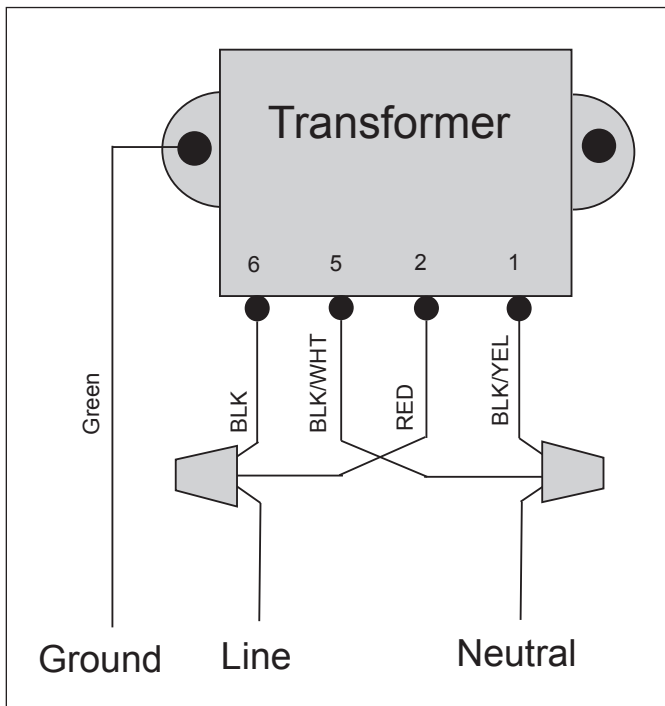

Figure 4. Modified Wiring for 110 Volt Operation
2. Connect the red wire with the black wire and connect to the line side of power. See Figure 4.
3. Connect the black/white wire with the black/yellow wire and connect to the neutral side of power. See Figure 4.